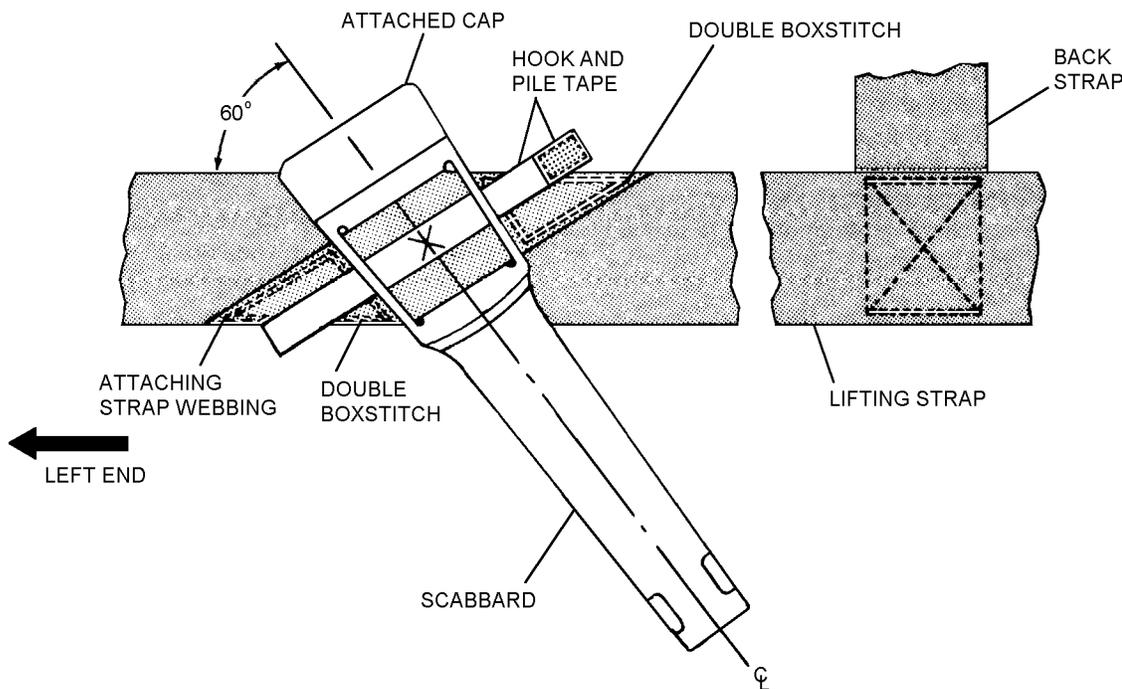

Figure 14-53. Attachment of Scabbard to Lifting Strap
3. Insert knife scabbard attaching strap, fabricated in paragraph 14-442, through slots in scabbard. Position scabbard on lifting strap slanted to swimmer's left at a 60° angle (Figure 14-53). Mark position of scabbard on lifting strap.
2. Stitch size E thread to attach strap to lifting strap using triangular box stitches. Push back edge of scabbard to stitch as close as possible to scabbard. Do not sew any closer than 1/8 inch from edge of material (Figure 14-53).